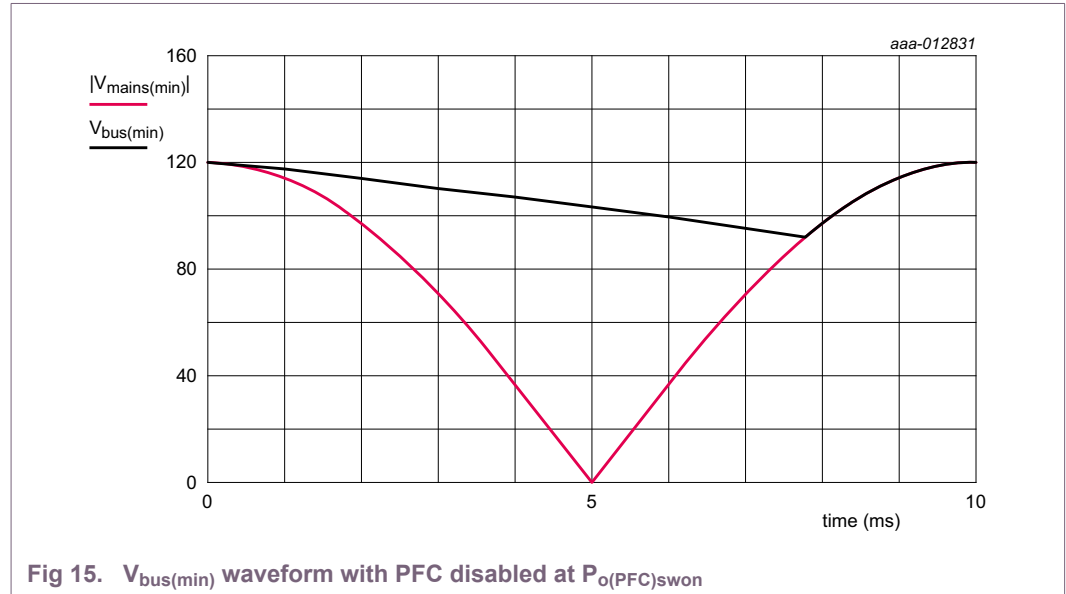

Fig 15. $V_{bus(min)}$ waveform with PFC disabled at $P_{o(PFC)swon}$
If the PFC is off, the peak of $V_{mains(min)}$ must trigger PFC on transition. In Figure 15 the expected bus voltage waveform is shown for $P_{o(PFC)swon}$ at $V_{mains(rms)min} = 85 \text{ V (AC)}$.